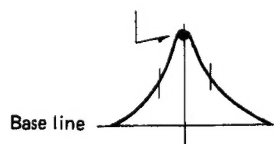

Fig. 18
(2)					330 kHz	330 kHz	CT153
(3)					Repeat steps (1) and (2).
- Feed in a weak signal to TP101 from the genescope. Adjust T101 for maximum gain and the wave form indicated in Figure 18. If the center of the wave form cannot be lined up on the marker, adjust the right/left balance.